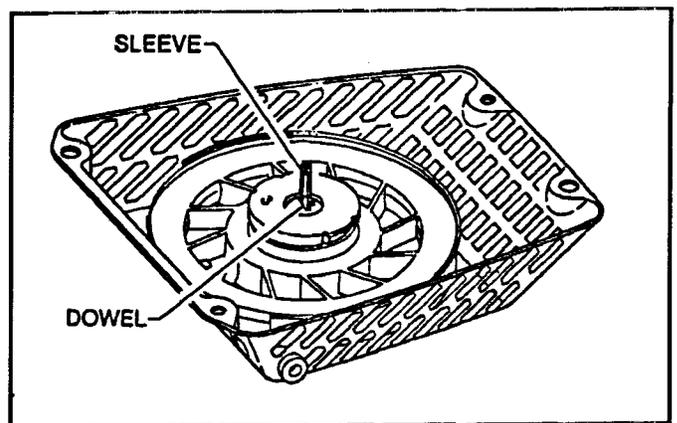

Figure 31
5. Drive the aligning roll pin into the center of the retaining screw and slide the plastic sleeve over the pin. See Figure 31.